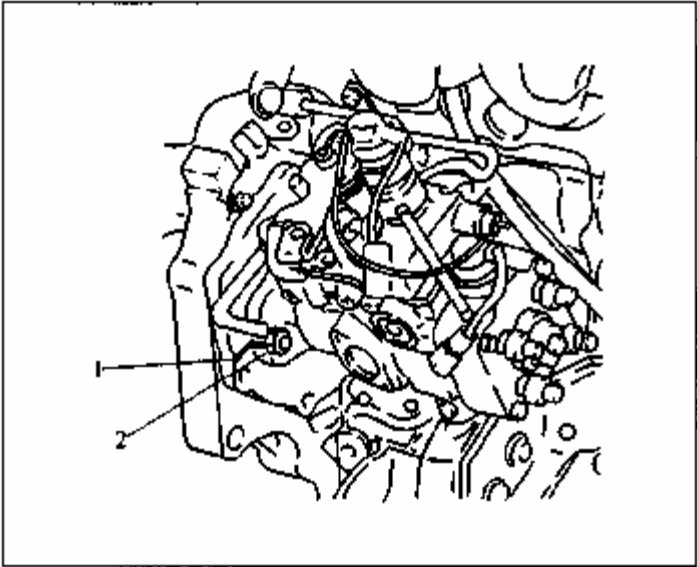

Figure 3-44 Check if the cutting line on pump flange aligns with pump body and flange cutting line
(1)Check if the cutting line on fuel injection pump flange aligns with center of the U-hole under pump body (see figure 3-44).